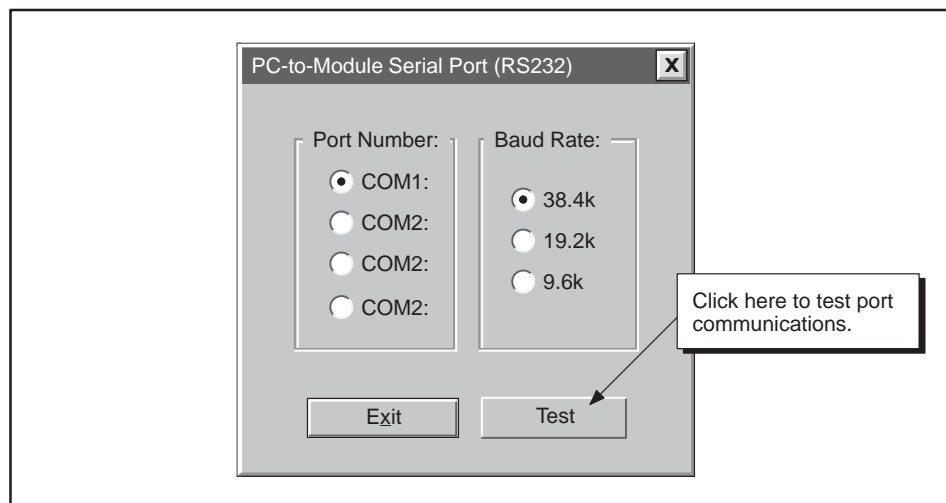

Figure 5-3 PC-to-Module Serial Port Setup Dialog
3. Select the port number that corresponds to the port on your PC, and select the communications baud rate that matches the jumper setting on the module (see Section 2.2), as shown in Figure 5-3.